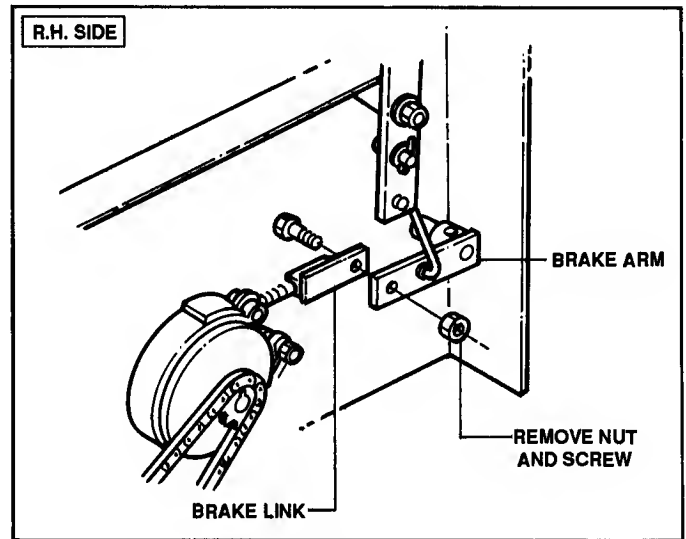

FIGURE 10.9
3. Remove nut and screw from brake link and brake arm. See Figure 10.9.